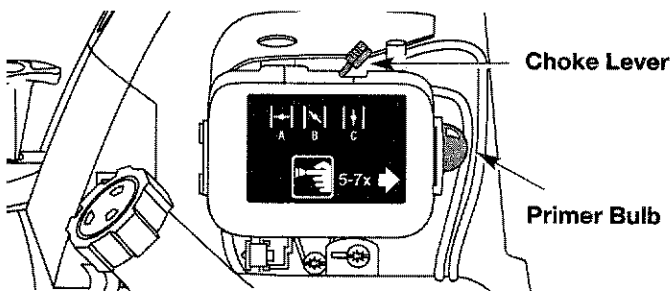

Fig. 21
4. Place the choke lever in the **FULL** choke (A) |←| position (Fig. 21).
NOTE: Slide the choke lever directly above the appropriate symbol on air filter cover decal (Fig. 21).
5. Fully press and release the primer bulb slowly 7 times. Gasoline should be felt and visible in the bulb (Fig. 21). If gasoline has not entered the bulb, press three more times, or until it does.
7. With the unit in the starting position (Fig. 21) pull the starter rope briskly 5 times in the **FULL** choke (A) |←| position. If the engine attempts to run before the fifth pull, proceed to step 8.
8. Move the choke lever to the **PARTIAL** (B) |↘| position (Fig. 21).
2. Move the choke lever to the **PARTIAL** (B) |↘| position (Fig. 21).
3. Fully press and release the primer bulb slowly 7 times. Gasoline should be felt and visible in the bulb (Fig. 21). If gasoline has not entered the bulb, press three more times, or until it does.